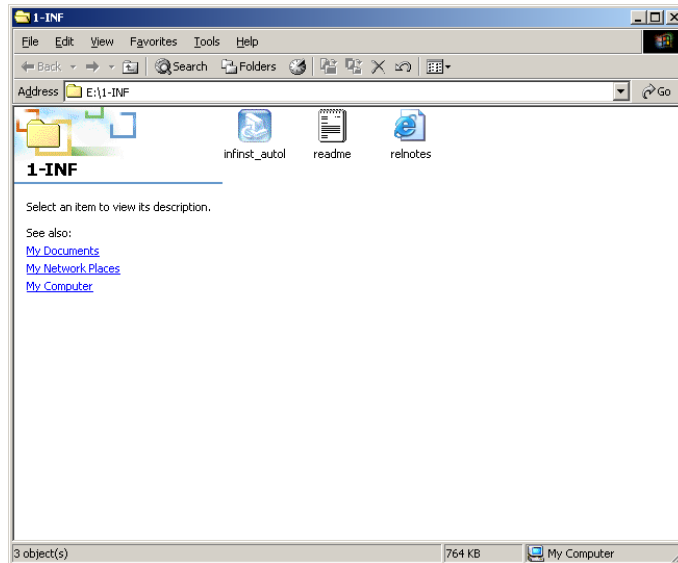

Figure 7-3: Chipset Driver Installation Program
Step 2: A new window opens (Figure 7-3).
Step 3: Double click the `infinst_Autol` icon in Figure 7-3.